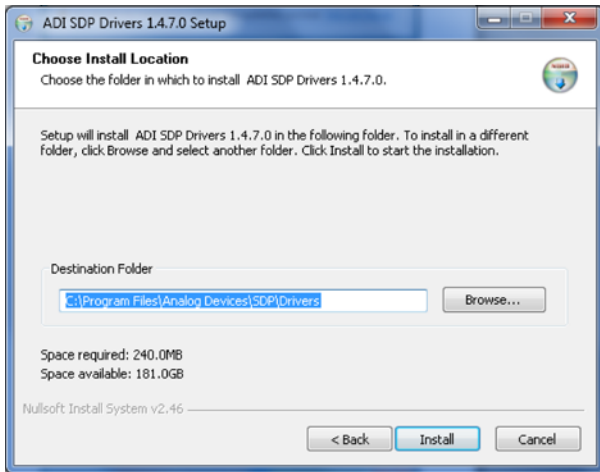

Figure 10. SDP Drivers Installation Location Window
2. Select the location to install the drivers and click **Install** (see Figure 10).